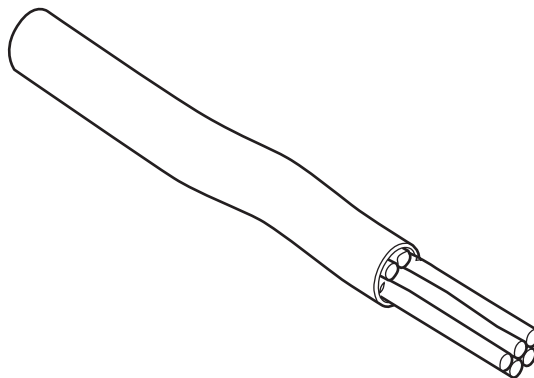

Fig. 5
- (b) Fig. 5 shows a problem that can occur when using wire strippers. Describe how this can be avoided.